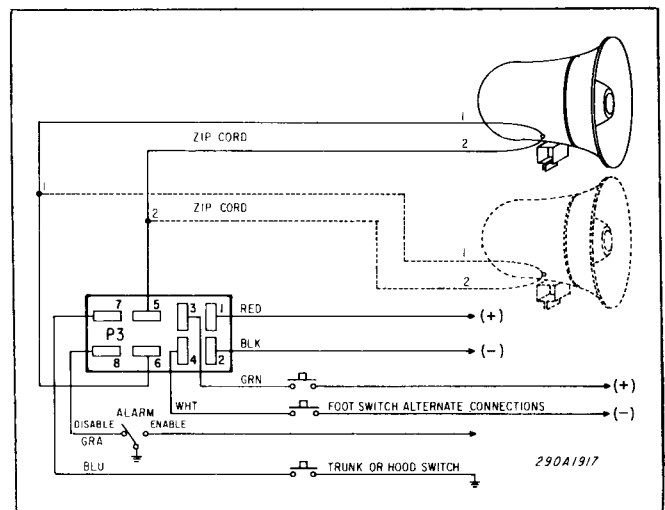

Figure 4. Power Cable Connections - Foot Switch Control.
When two speakers are used, it is necessary to connect the speakers in parallel and in-phase for optimum performance. This can be accomplished by connecting the two speaker leads marked "1" to the same power cable lead, and the two speaker leads marked "2" to the other power cable lead (see figure 4).
Connect the red lead (P3, pin 1) to the positive (hot) side of the battery terminal or ignition switch. Connect the black lead (P3, pin 2) to the vehicle frame (see figure 4). When making connections directly to the battery terminal, proceed as follows:
3. Connect one terminal of the foot switch to the green lead (P3, pin 3), and the other terminal to the positive (hot) side of the battery terminal (negative grounded systems). As an alternate method, connect one terminal of the foot switch to the white lead (P3, pin 4) and the other terminal to the vehicle frame or other good ground point (see figure 4).
A SPDT toggle switch is included in the siren's accessory envelope. When properly installed, this switch allows the operator to enable or disable the burglar alarm. Locate a convenient, but inconspicuous mounting position for the supplied toggle switch and proceed as follows (see figure 4):